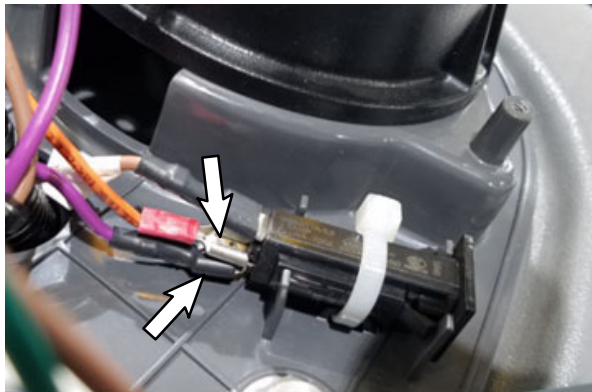

FIG. 27
42. Disconnect the 17/PUR lead from the circuit breaker located in the alarm/flashing light assembly. (Fig. 27)
43. Connect the blue spotlight rear harness (15) T3 lead to the circuit breaker terminal where 17/PUR lead was previously connected. (Fig. 27)
44. Connect the main wire harness 17/PUR lead to the blue spotlight rear harness (15) T3 lead. (Fig. 27)